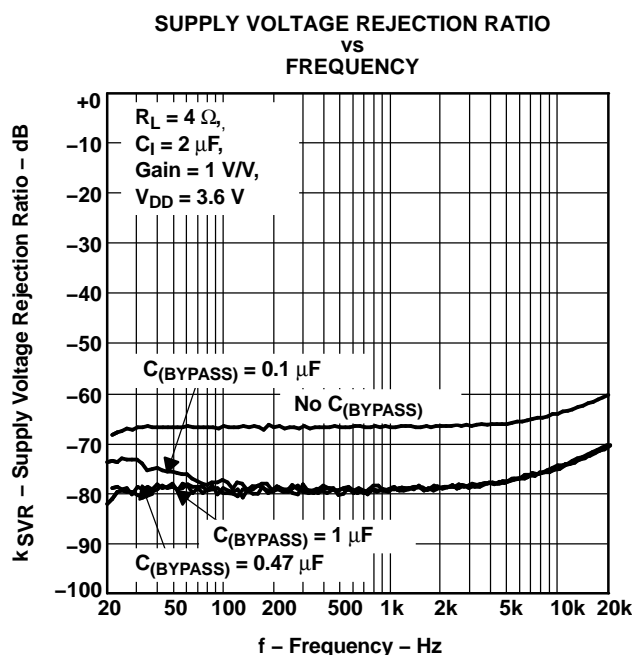

Figure 17.
- **Mid-supply bypass capacitor, $C_{(BYPASS)}$, not required:** The fully differential amplifier does not require a bypass capacitor. Any shift in the mid-supply voltage affects both positive and negative channels equally, thus canceling at the differential output. Removing the bypass capacitor slightly worsens power supply rejection ratio (k_{SVR}), but a slight decrease of k_{SVR} may be acceptable when an additional component can be eliminated (See Figure 17).